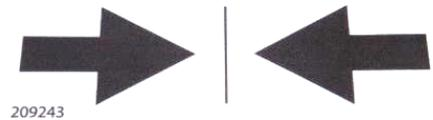

Figure 64
21) Remove only the center stickers on the C-channels (Figure 64).